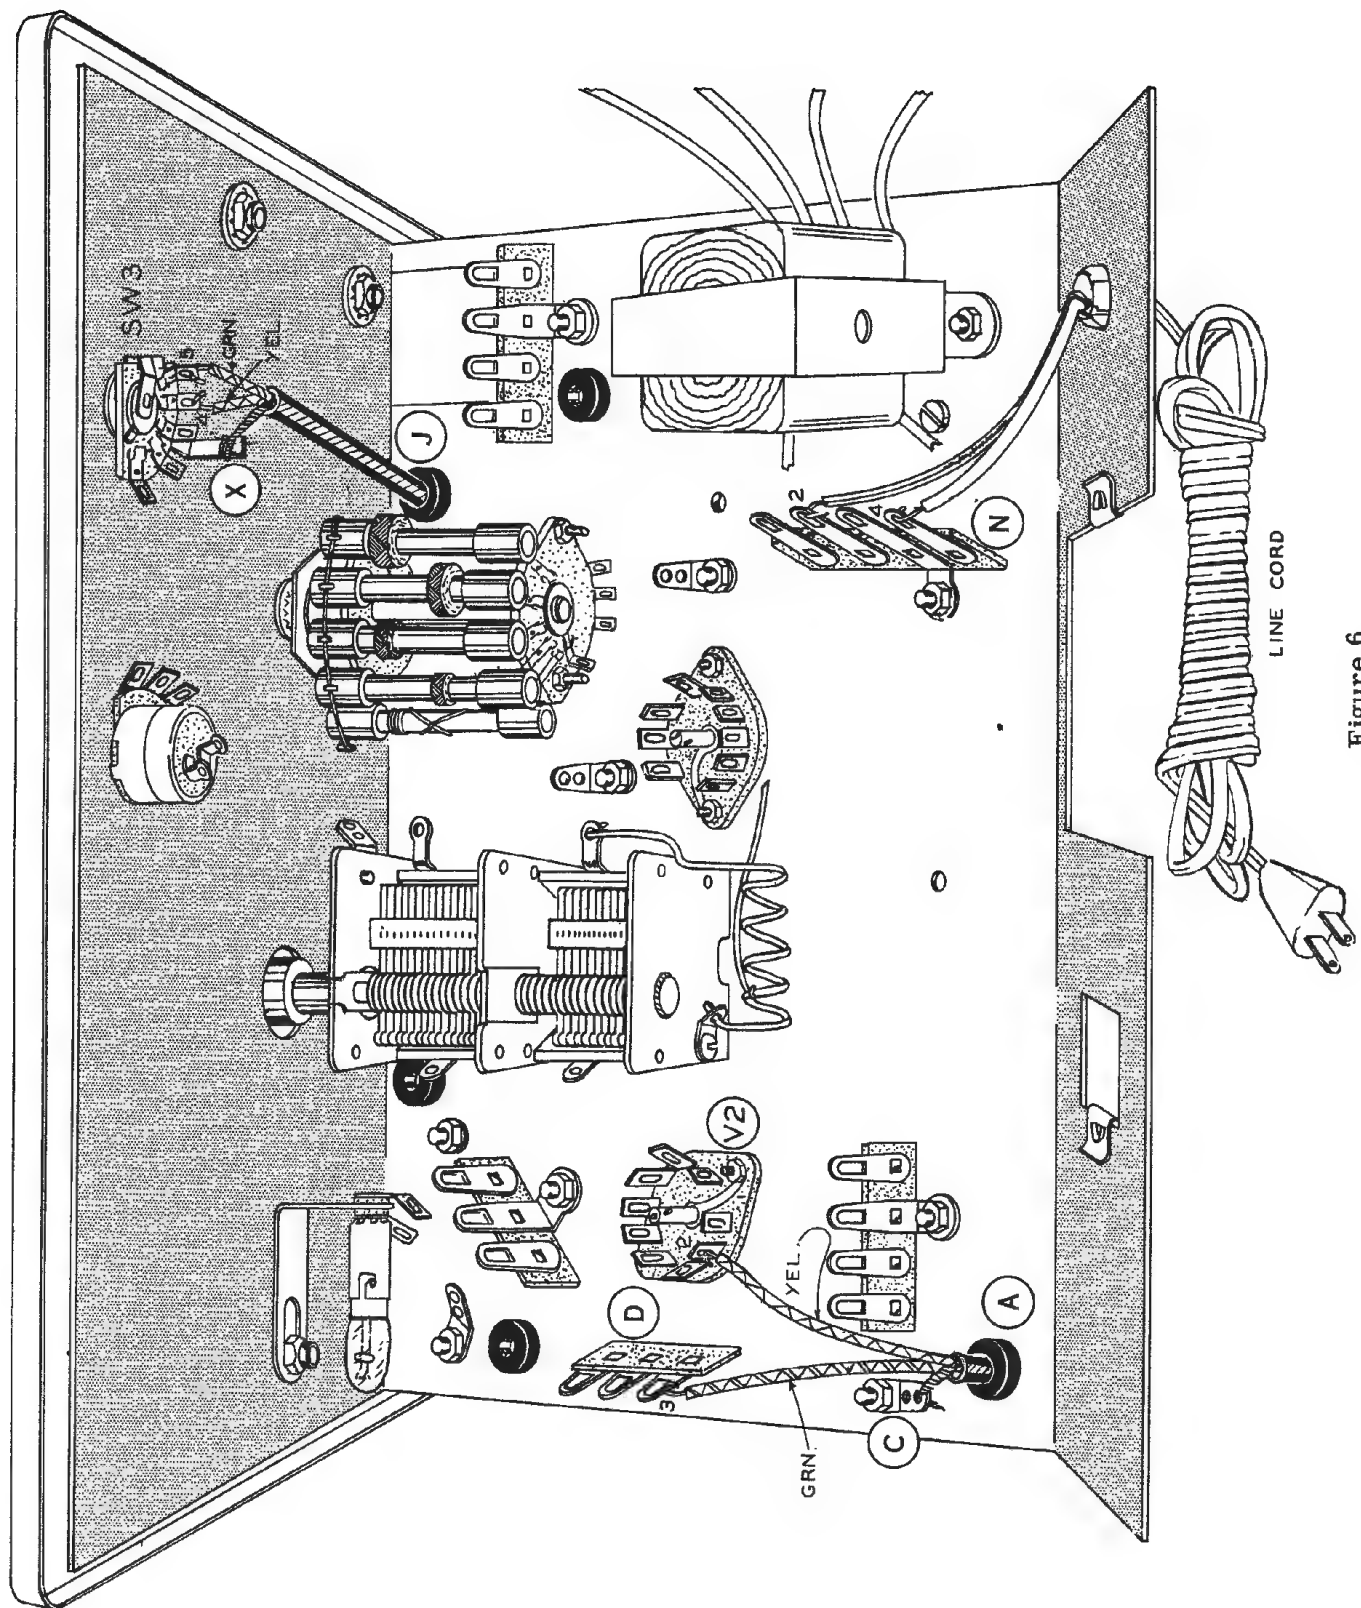

Figure 6
- () Refer to Figure 6 and insert the end of the shielded cable with the shortest leads through grommet J, from the tube side of the chassis. Connect the yellow wire to lug 4 (S-1) and the green wire to lug 5 (S-1) of SW3. Connect the shield to solder lug X (S-2). Insert the other end of the cable through grommet A. Connect the yellow wire to pin 2 (S-2) of V2, the green wire to lug 3 (S-2) of terminal strip D and the shield to ground lug C (S-1).